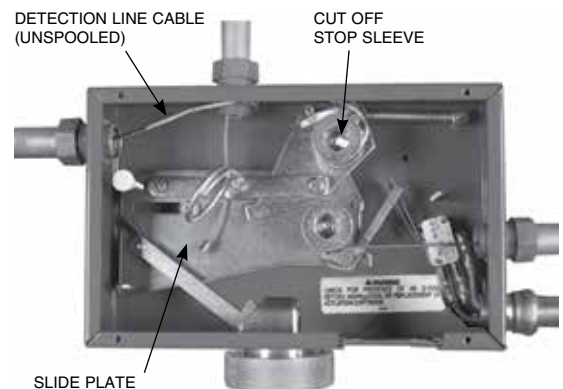

FIGURE 12
- d. Once the cable has been unspooled (see Figure 12), cut off the stop sleeve at the end of the detection line cable and remove the detection line cable from the ratchet wheel.